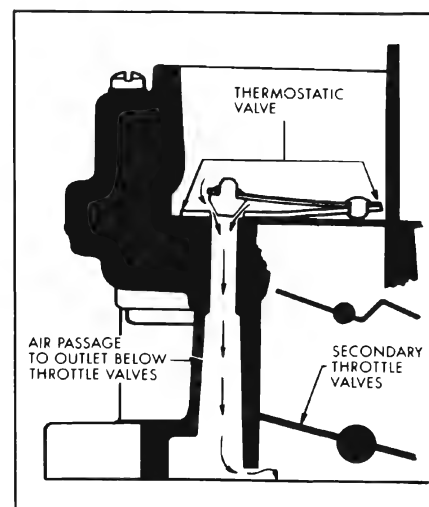

Figure 3-74—Thermostatic Valve Assembly
To compensate for loss of engine RPM while idling under very hot operating conditions, a thermostatic valve assembly is installed in the web between the right and left secondary venturi. When the temperature rises beyond a certain point, the calibrated thermostatic spring opens the valve. This allows additional air to flow through a special passage to an outlet below the secondary throttle valves. At normal operating temperatures, the valve should be closed. The thermostatic valve cannot be adjusted or repaired; therefore, a faulty valve must be replaced. See Figure 3-74.
11. Remove thermostatic valve and gasket. See Figure 3-74.
3. Install thermostatic valve using new gasket. See Figure 3-74.